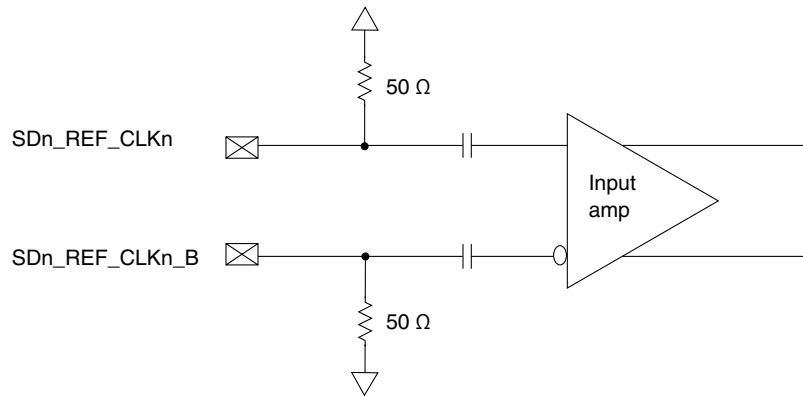

Figure 32. Receiver of SerDes reference clocks
- The SDn_REF_CLKn and $SDn_REF_CLKn_B$ are internally AC-coupled differential inputs as shown in Figure 32. Each differential clock input (SDn_REF_CLKn or $SDn_REF_CLKn_B$) has on-chip $50\ \Omega$ termination to $SGNDn$ followed by on-chip AC-coupling.